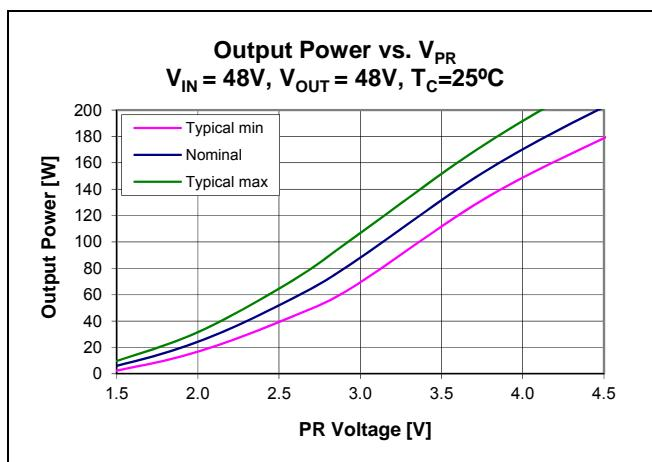

Figure 21 – Output Power vs. V_{PR} ; $V_{IN} = 48V$, $V_{OUT} = 48V$, $T_{CASE} = 25^{\circ}C$
Control node (PR) is the input to the control node which determines the powertrain timing and ultimately the module output power (Figure 21). An internal 0.5mA current sink is always active. The bi-directional buffer between PR and the control node has two states. In normal operation, PR will be above the 0.79V switching threshold, and will drive the control node through the buffer. An internal 7.4V clamp determines the maximum output power that can be requested of the modulator. When PR falls below 0.79 V, the converter will stop switching. An internal circuit clamps the modulator input control node to 0.79 V, and a buffer will source up to 2.5 mA out of the pin at that clamp level. For this reason, the output impedance of the amplifier driving PR must be taken into account. A rail-to-rail operational amplifier with low output impedance is always recommended.